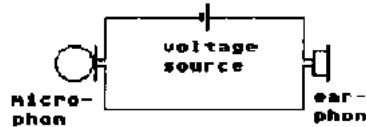

fig. 16
8. Applying your knowledge of Ohms Law try to describe how the circuit shown in fig. 16 manages to produce the